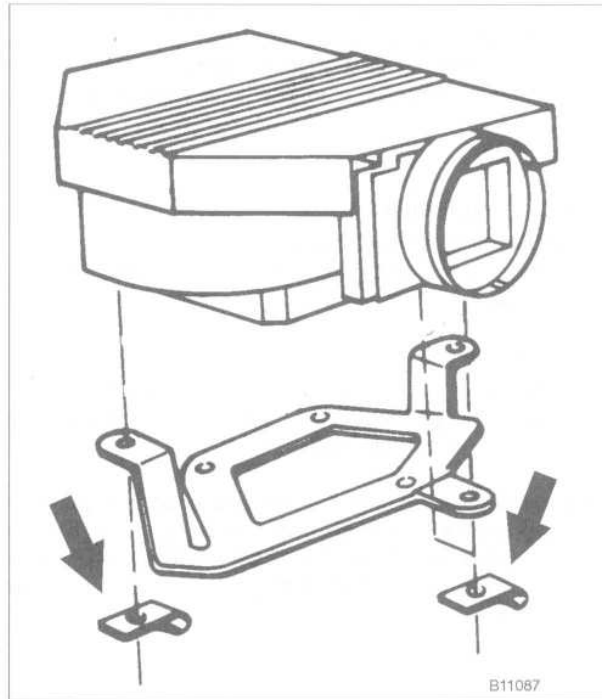

Fig. 23. Air flow sensor mounting clips (arrows).
5. Remove the air flow sensor by disconnecting the harness connector and removing the retaining clips from the underside of the meter. See Fig. 23.